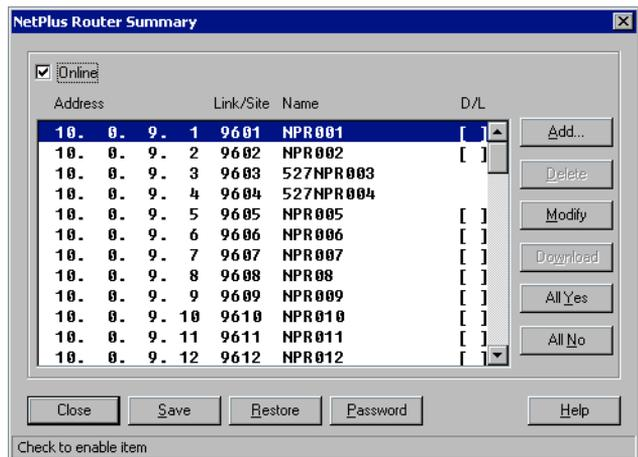

Figure 3-23. NetPlus Router Summary
- Click the **NP Routers** button on the I/NET Configuration Profiles dialog box. The NetPlus Router Summary screen displays (see Figure 3-23).
It is not possible to download software from TAC I/NET Seven to a Xenta 527/527-NPR. You can quickly identify Xenta devices in the NetPlus Router Summary by looking for the presence of square brackets ([]) in the **D/L** column. If a device has no square brackets, it is a Xenta 527 or Xenta 527-NPR (see the third and fourth device listed in Figure 3-23 for an example).